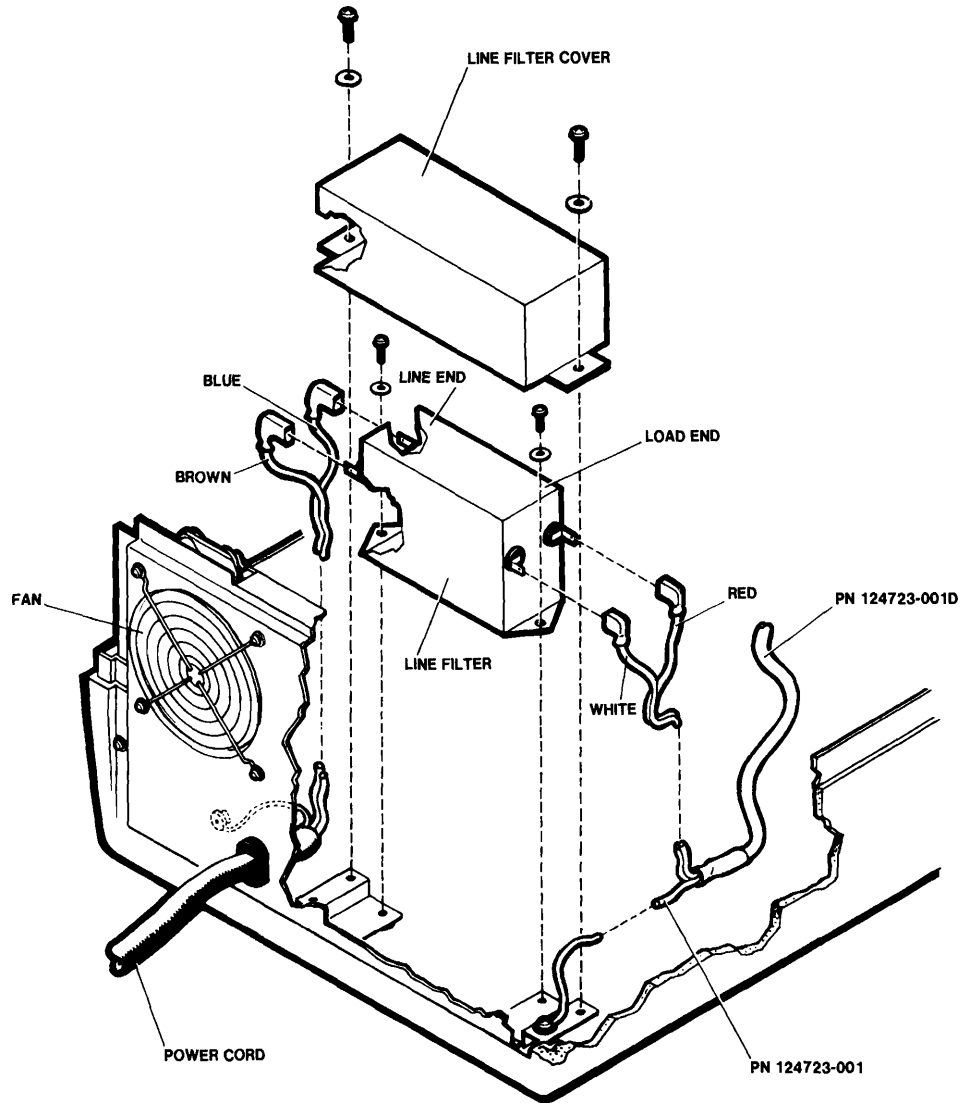

Figure 4-6. AC Filter Removal
1. Remove the two screws holding the filter cover to the chassis and remove the cover (see figure 4-6).
1. Place filter in the chassis and reconnect the ac line end wires (brown wire nearest rear panel and blue wire nearest drive; see figure 4-6).
2. Reconnect the circuit breaker wires to the load end of filter (white wire nearest rear panel and red wire nearest drive; see figure 4-6). Replace circuit breaker and chassis grounds to mounting bracket and secure them at the load end of the filter. Replace remaining screw and tighten.